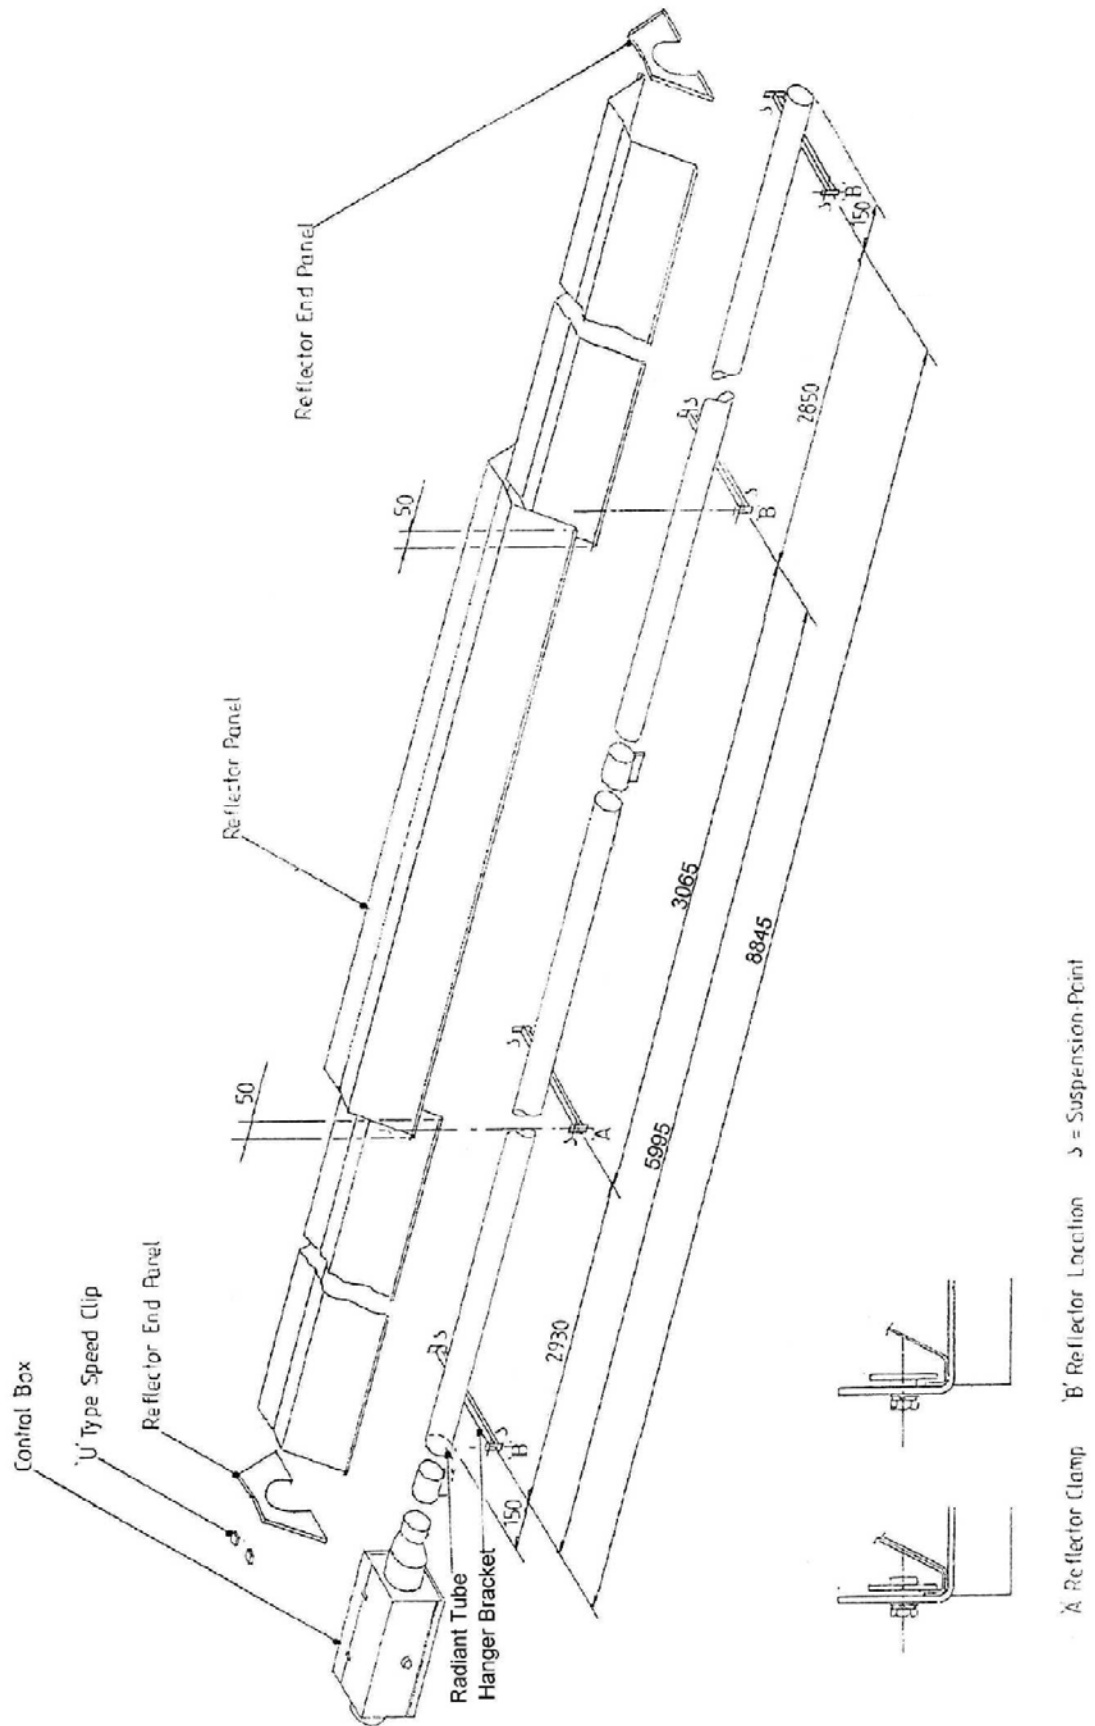

Fig. 13
- 4.3.2 Place one Radiant Tube and one Radiant Tube Assembly (containing turbulator) on trestles, providing 150mm minimum clearance above the floor and assemble two Hanger Brackets to both the Radiant Tube and Radiant Tube Assembly, using one 'U' bolt per bracket (from fastenings pack). Ensure that the welded seam of the tubes is in contact with the hanger brackets i.e. facing away from the reflector. Position the Hanger Brackets along the Radiant Tube and Radiant Tube Assembly as shown in Fig. 13. Tighten the 'U' bolt nuts sufficiently to retain the Hanger Brackets. Do not overtighten.
- 4.3.3 Place one Torctite Coupling over the end of the Radiant Tube (see Fig. 13) ensuring that it engages fully, up to the stop. Assemble the Control Box to the Radiant Tube ensuring that it engages fully into the Torctite Coupling (up to the stop) and is positioned vertically with the door latch uppermost (see Fig. 5). Tighten the screws of the Torctite Coupling to secure the Control Box to the Radiant Tube, taking care to support the Control Box in line with the axis of the tube.
- 4.3.4 The two sections should now be raised and suspended from previously fixed chains or drop rods as detailed in Section 3.1, at suspension points indicated in Fig. 13 & 15. Rope or webbing slings should be used when lifting from above. If using a forklift to position the appliance sections, ensure that they are balanced on the forks prior to lifting.
- 4.3.5 Place a Torctite Coupling over the open end of the Radiant Tube carrying the Control Box ensuring that it engages fully, up to the stop. Assemble the second Radiant Tube into the Torctite Coupling ensuring that it engages fully, up to the stop with the Hanger Brackets aligned with those of the first Radiant Tube section (see Fig. 13). Tighten the screws of the Torctite Coupling to secure the two sections of Radiant Tube to one another, taking care to maintain the tubes in a straight line.
- 4.3.6 Place two of the Reflector Panels onto the Hanger Brackets and position their outer edges such that they overhang the outer Hanger Brackets by 80mm (see Fig. 13). Place the third Reflector Panel over the two previously positioned Reflector Panels to provide a 50mm overlap at each end. Clamp the first and second Reflector Panels, where they overlap, to the second Hanger Bracket (from Control Box end) using two retainers and M6 setscrews and washers (fastenings pack). Secure the outer end of the centre Reflector Panel to the Reflector Panel furthest from the Control Box using two U type speed clips (from fastenings pack) as shown in Fig. 13. Screw the remaining (6) retainers to each of the other Hanger Brackets to provide **location** for the Reflector Panels as shown in Fig. 13.
- 4.3.7 Position one Reflector End Panel over the Radiant Tube and into one end of the Reflector Panels with the End Panel flange flush with the end of the Reflector Panel. Secure the Reflector End Panel to the Reflector Panels by use of six 'U' type speed clips provided (fastenings Pack); as shown in Fig. 13.